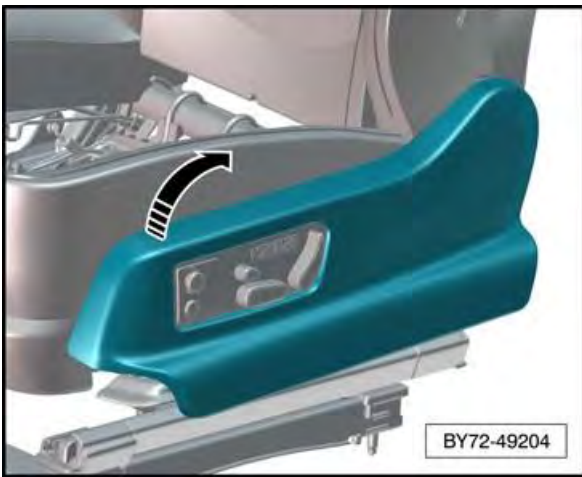

Figure 17
- From the front edge lift the valance up and back to release the side valance from the clipping points (see Figure 17)